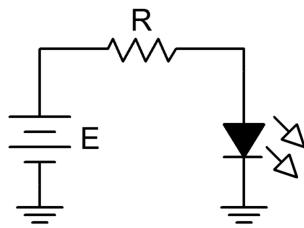
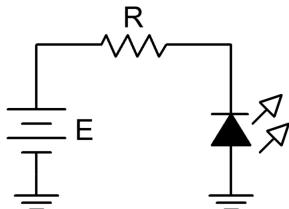

Figure 1
Figure 2
1. Consider the circuit of Figure 1 using $R = 1 \text{ k}\Omega$. For any positive value of E , the diode should be forward biased. Once E exceeds the knee voltage, the difference between the source and the knee drops across R . Thus, as E increases, so does the LED current and hence its brightness.
2. Build the circuit of Figure 1 using $R = 1 \text{ k}\Omega$ and the red LED. Set E to 0 volts and measure both the LED voltage and current and record the results in Table 1. Note the relative brightness level. Repeat this process for the remaining source voltages listed.
6. Replace the LED of Figure 1 with the high brightness white LED. Set the supply to 12 volts. Record the LED voltage, current and brightness in Table 4.
7. Consider the circuit of Figure 2 using $R = 1 \text{ k}\Omega$. For any positive value of E , the LED should be reversed biased. In this case, the LED should always be open causing no current to flow. If no current flows, the LED produces no light. Also, the voltage across R should be zero, and thus the LED voltage should be equal to the applied source voltage. Note that the LED voltage polarity is negative with respect to that of Figure 1.
8. Build the circuit of Figure 2 using $R = 1 \text{ k}\Omega$ using the red LED. Set E to 0 volts and measure both the LED voltage and current and record the results in Table 5. Repeat this process for the remaining source voltages listed.